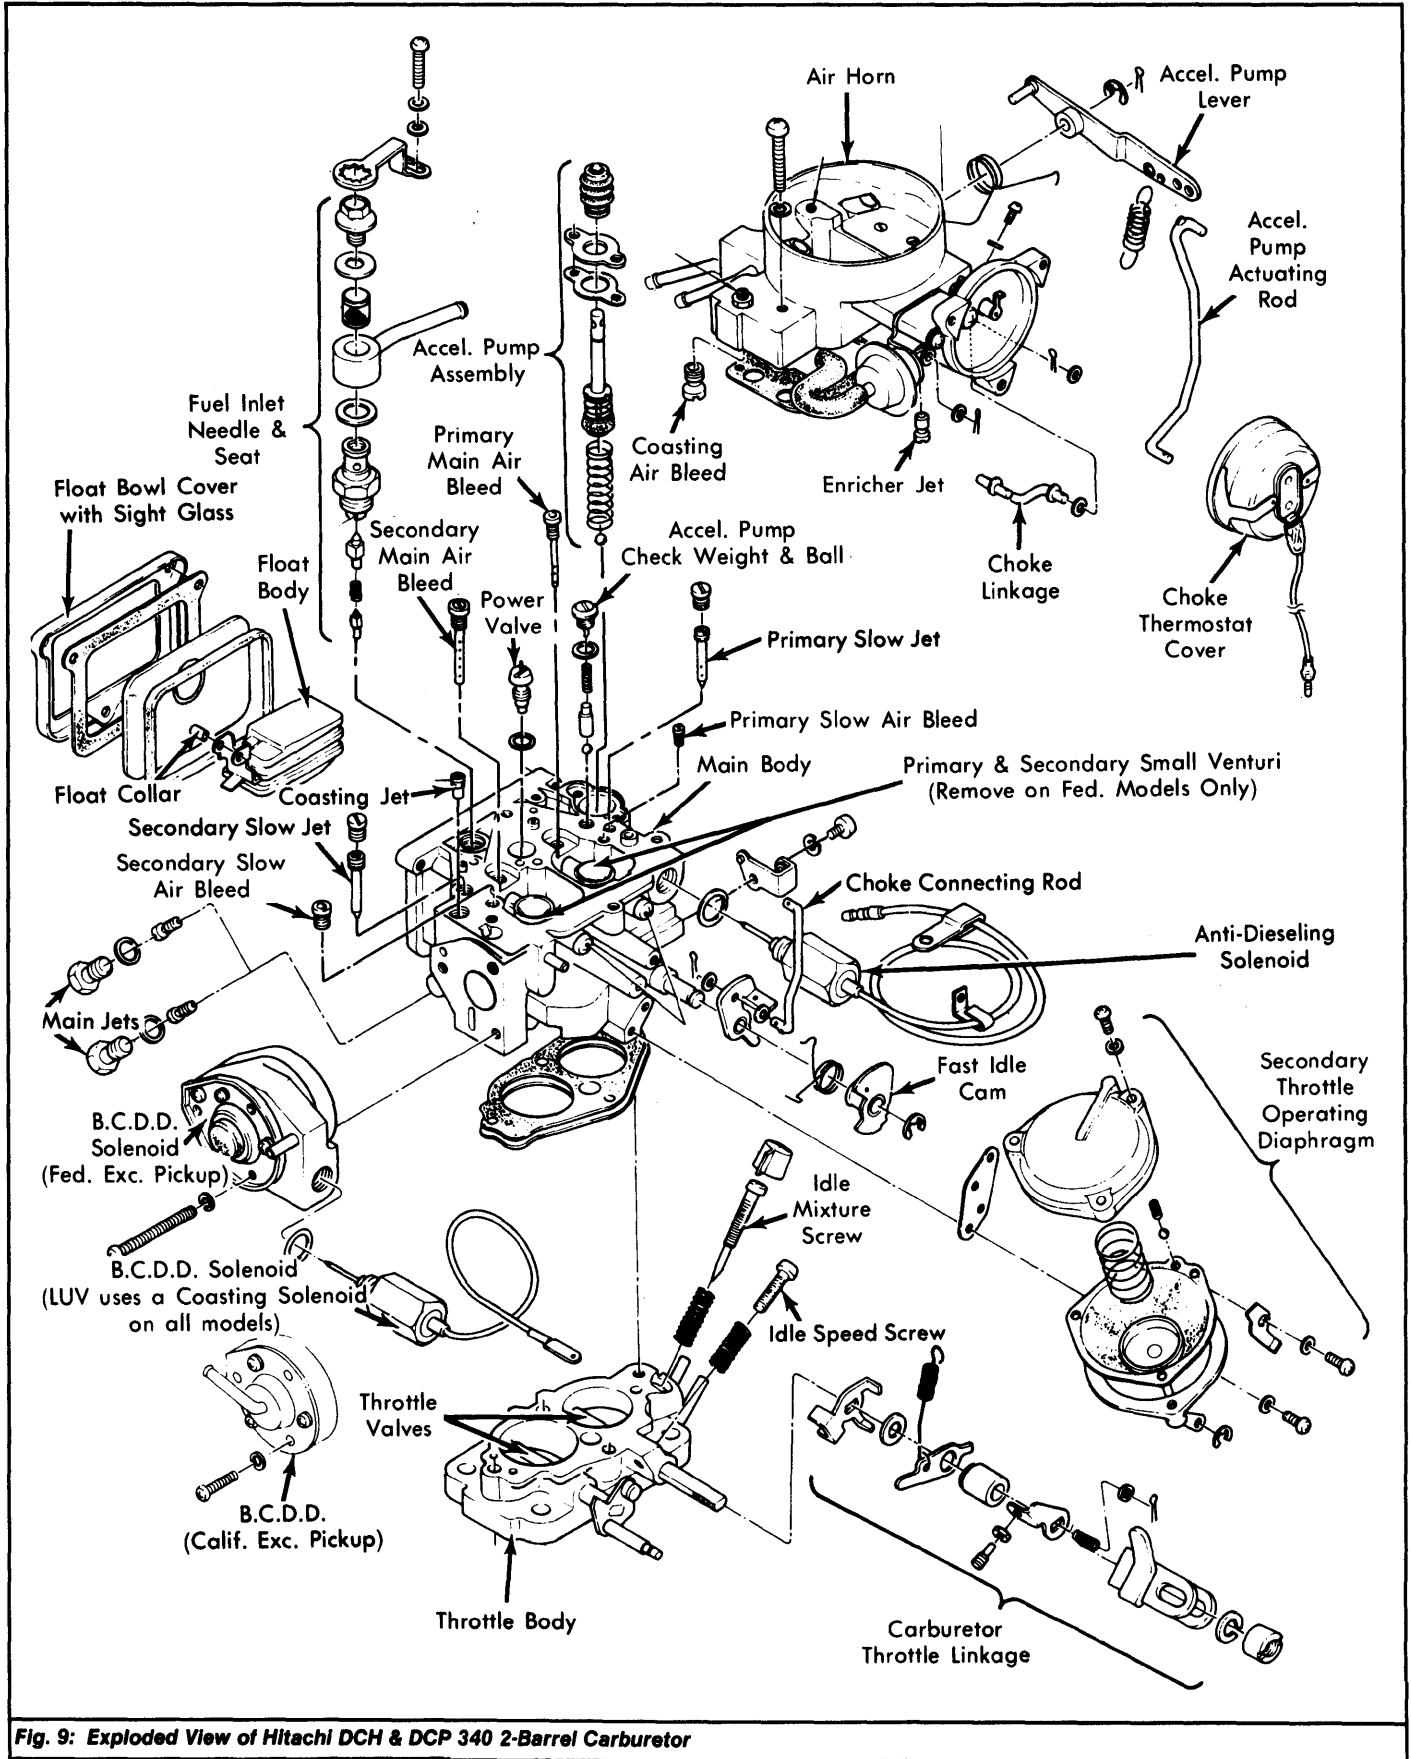

Fig. 9: Exploded View of Hitachi DCH & DCP 340 2-Barrel Carburetor
- 4) Separate lever and diaphragm. See Figs. 9 and 10. Remove solenoid valve harness clips. Remove diaphragm attaching screws. Remove diaphragm assembly.